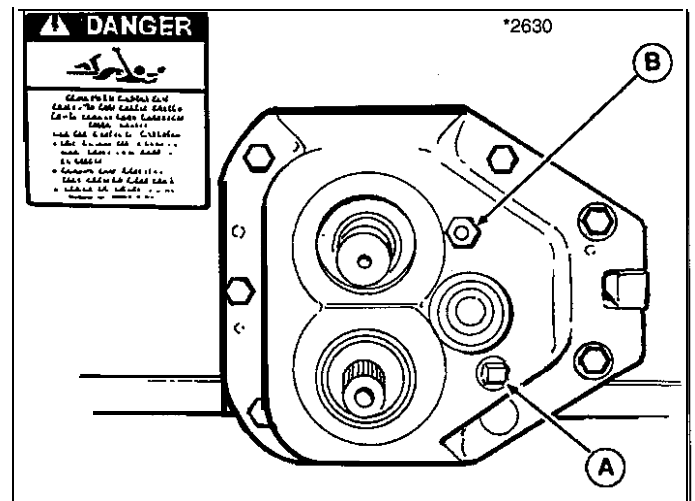

Figure 15. Speed Reduction Gearbox
- d. Remove check plug (A, figure 15).
- e. Level of oil should be even with check plug. If low, remove fill/vent plug (B, figure 15), add 30 Wt. Motor Oil.